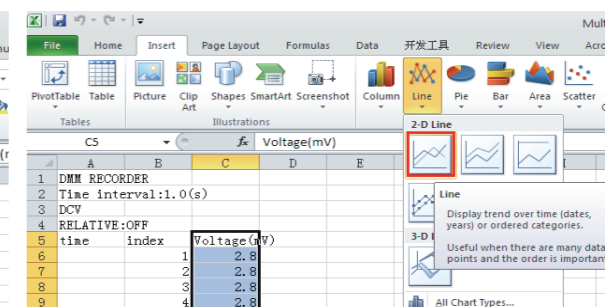

Figure 6-5
3. On the **Insert** tab, in the **Charts** group, click **Line**, and then click **Line** in 2-D Line (see Figure 6-5).